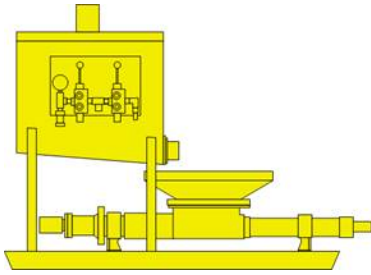

Figure 2: Progressive Cavity Grout Pump with attached mixer
4.4.1.3. Peristaltic or progressive cavity type pumps can also be used for placement of mixed batches of Chockfast Red Versaflow in large quantities. (Figures 2, 3, 4) For additional recommendation on suitable pump options and sources, contact a local representative of the Chockfast Worldwide Distributor Network or ITW.